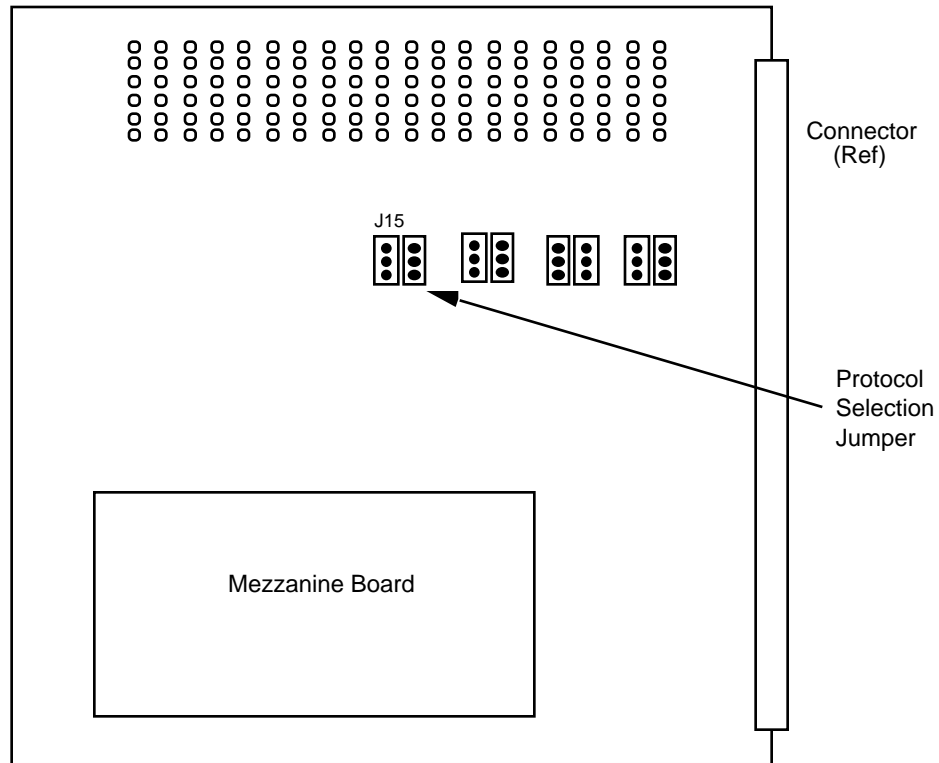

Figure 2. Model 4000 Protocol Selection Jumpers
2. Referring to Figure 2, jumper the upper two pins of both EDITOR jumpers for RS-422 protocol or the lower two pins for RS-232 protocol.